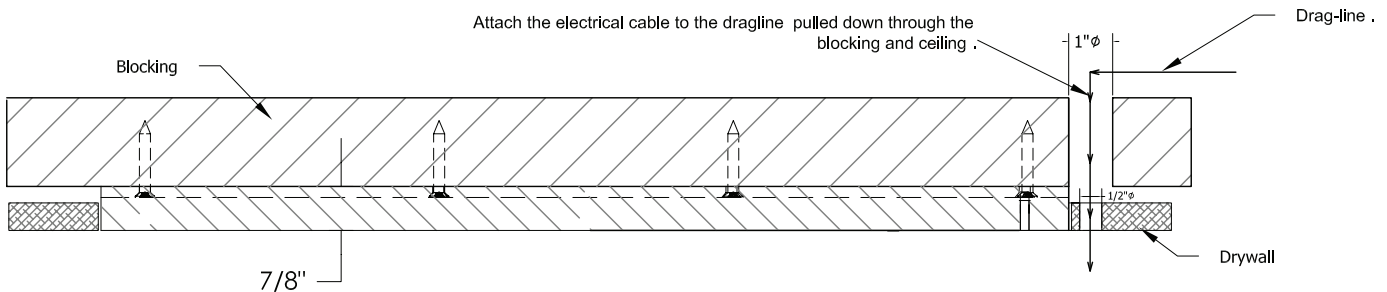

Fig. 6
4. The holes in the top of the mirror frame align with the holes in the attachment bracket. There is also an exit hole in the top of the frame for the electric cable. With two people holding the mirror in place. A third person will attach the electric cable to the drag-line and push the cable up the holes in the ceiling and blocking (Fig.6).